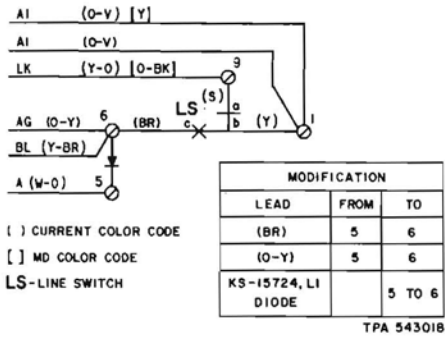

Fig. 4—Station Busy Lamp Circuit With Speakerphone
**2.10** Sets may be equipped for 3-type (MD) speakerphone by the addition of a 679A (MD) transmitter in the 3rd (2630-type) or 5th (2631-type) module (Fig. 4). Refer to Section 512-620-440 for necessary wiring changes and connections. Wiring of sets with speakerphone and necessary field modifications are shown in Fig. 4 and Table D.
2. IN SETS EQUIPPED WITH A 658A KEY THE (G) CONTACT STRIP LEAD IS TERMINATED ON 17 AND (R) ON 18. IF A 658A KEY IS ADDED IN THE FIELD, LEADS MUST BE MOVED FROM PRECEDING MODULE CHAINING CIRCUIT TO TERMINALS 17 AND 18.
5. MODULE MAY ALSO BE EQUIPPED WITH A 679A INTERNAL TRANSMITTER FOR SPEAKERPHONE. SEE FIG. 4 AND SECTION 512-620-440 FOR WIRING CHANGES.
6. TO SUPPLY "I" HOLD FEATURE TERMINATE (Y-BR) MOUNTING CORD LEAD FROM (O) BINDER GROUP TO TERMINAL 24. LEAD BECOMES SP LEAD AT EQUIPMENT.
7. IF HOLD POSITION LAMP IS REQUIRED CONNECT (G-Y) AND (Y-G) LAMP LEADS TO SPARE PAIR USING SPARE TERMINAL OR D-161488 CONNECTORS. LAMP MUST BE SEPARATELY ORDERED AND INSTALLED. HOLD POSITION LAMP CANNOT BE ILLUMINATED WHEN EXTERNAL TRANSMITTER IS WIRED FOR 3-TYPE (MD) SPEAKERPHONE USING MOUNTING CORD LEADS.
8. 3-TYPE (MD) SPEAKERPHONE LEADS WHEN ASSOCIATED WITH EXTERNAL TRANSMITTER.
9. THESE CONTACT STRIPS ARE REQUIRED WHEN TELEPHONE SET IS EQUIPPED WITH THE D120K (MD) OR THE D200S (MD) MOUNTING CORD. THESE CONTACT STRIPS SHOULD NOT BE USED WHEN TELEPHONE SET IS EQUIPPED WITH THE D120M OR D200AA MOUNTING CORD OR WHEN TELEPHONE SET IS EQUIPPED WITH A MODIFIED D120K OR D200S MOUNTING CORD.